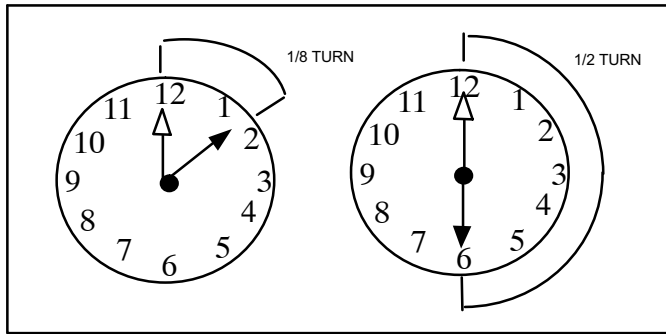

Figure 8. Tightening Distance
3. Connect the liquid line assembly with the brass nut to the liquid line orifice housing. Finger tighten and use an appropriately sized wrench to turn an additional 1/2 turn clockwise as illustrated in figure 8, or 20 ft-lb.
2. Attach the stubbed end of the TXV to the liquid line orifice housing. Finger tighten and use an appropriately sized wrench to turn an additional 1/2 turn clockwise as illustrated in figure 8, or 20 ft-lb.
4. Attach the liquid line assembly with brass nut to the TXV. Finger tighten and use an appropriately sized wrench to turn an additional 1/2 turn clockwise as illustrated in figure 8, or 20 ft-lb.
- 6. Connect the equalizer line from the TXV to the equalizer suction port on the suction line. Finger tighten the flare nut plus 1/8 turn (7 ft-lbs) as illustrated in figure 8.